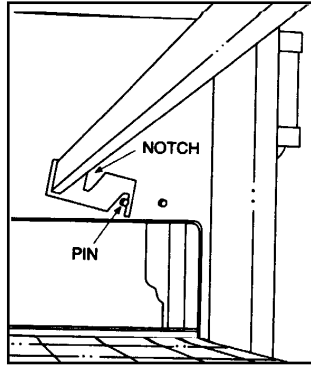

Figure 1
8. Rotate the finger brackets until the notches in the brackets sit on the retaining pins. (See Figure 1.)